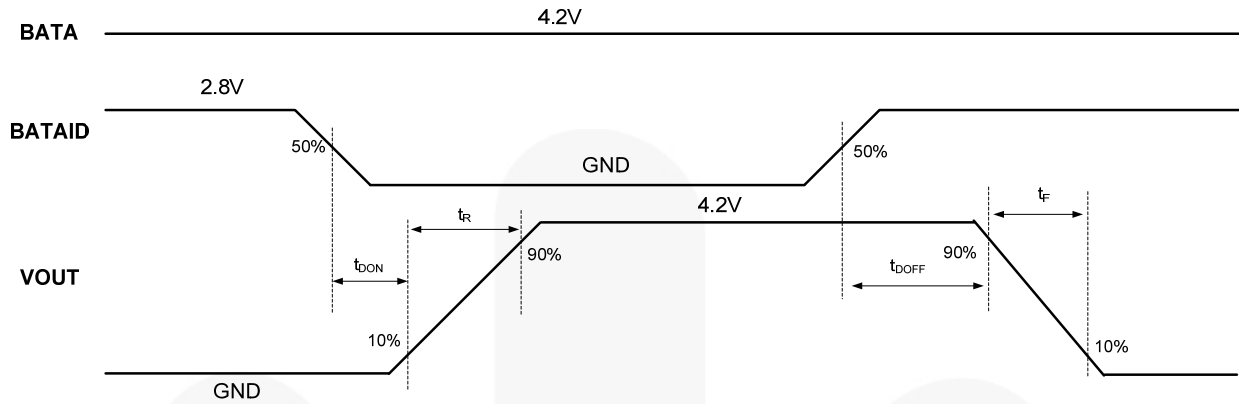

Figure 5. ON/OFF Behavior ( $V_{BATA}=4.2V$ )
- $t_{DON}/t_{DOFF}/t_R/t_F$  is defined in Figure 5.